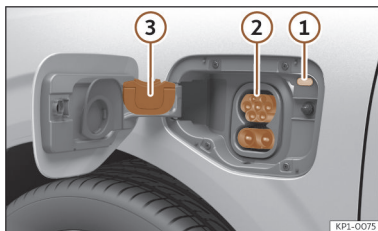

Fig. 61 Behind the battery charging cover on the rear right-hand side.
- Remove the protective cap and hang it on the hook >>> **Fig. 61 ③**
- Plug the charging station's charging connector into the charging socket >>> **Fig. 61 ②**
The LED (charging process indicator) of the charging socket flashes or flashes white >>> **Fig. 61 ①** >>> page 86
The charging process indicator on the charging socket ① flashes green >>> **Fig. 61.**
- Tap the **Stop charging** function button on the infotainment system display. The charging process indicator located next to the charging socket ① lights up white >>> **Fig. 61.** The charging connector is unlocked.
- Place the protective cap on the charging socket's lower connection >>> **Fig. 61 ③**